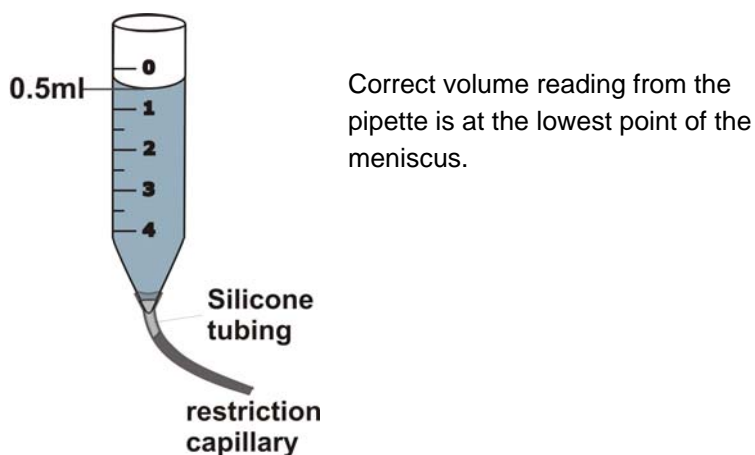

Fig. 14. Flow measurement with graduated 5 mL pipette.
2. Connect the inlet of the graduated analytical pipette to the outlet of the restriction capillary using a short piece of silicon tubing (see figure 14). Or connect the restriction capillary to a calibrated flow meter.